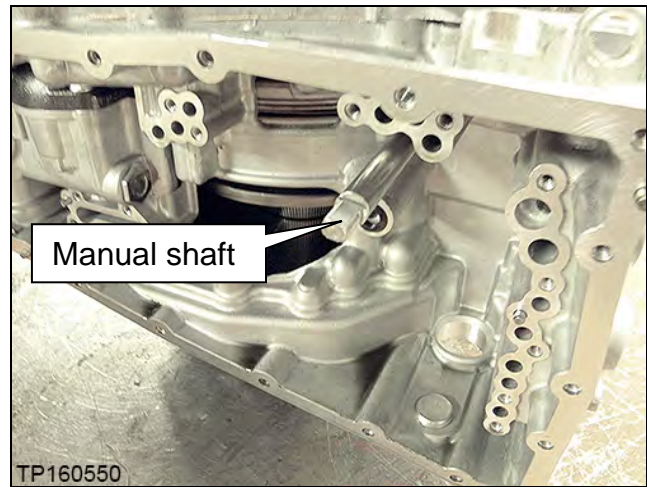

Figure 3F
- Do not hit the manual shaft (Figure 3F) while flipping the CVT; the manual shaft is longer than the oil pan mating surface. Use a plastic / wooden block to support as needed.